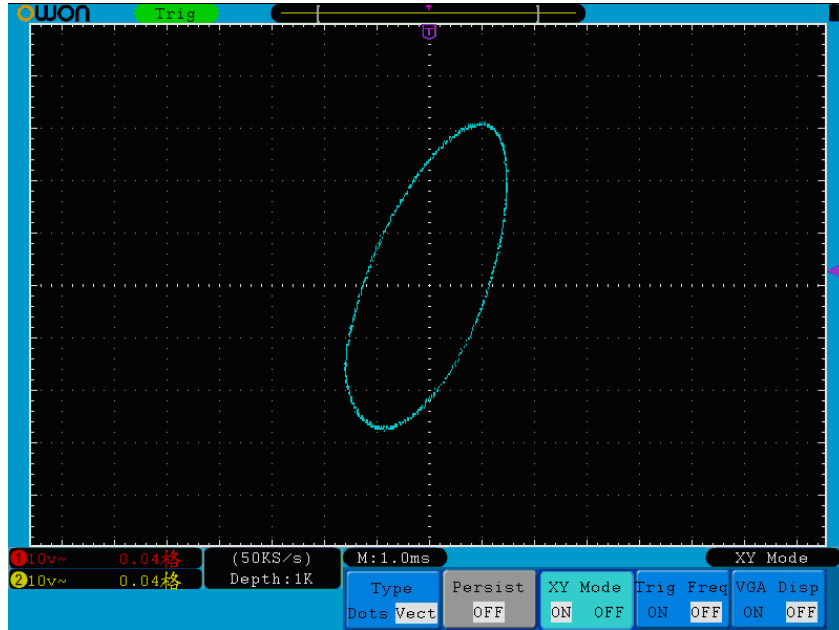

Figure 5-35 XY Display Mode
2. Press the **H3** menu selection button to set XY Mode **ON**. The display format is changed to be XY mode (see *Figure 5-35*).